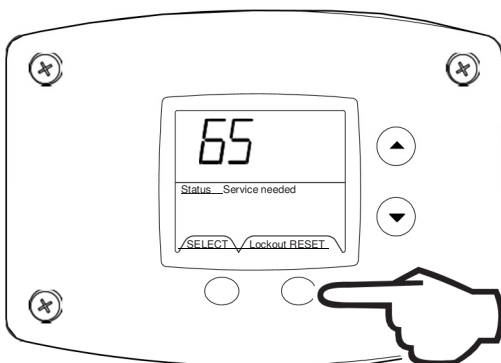

Fig. 64
2. Press for 3 seconds to reset control in service mode (Fig. 64).